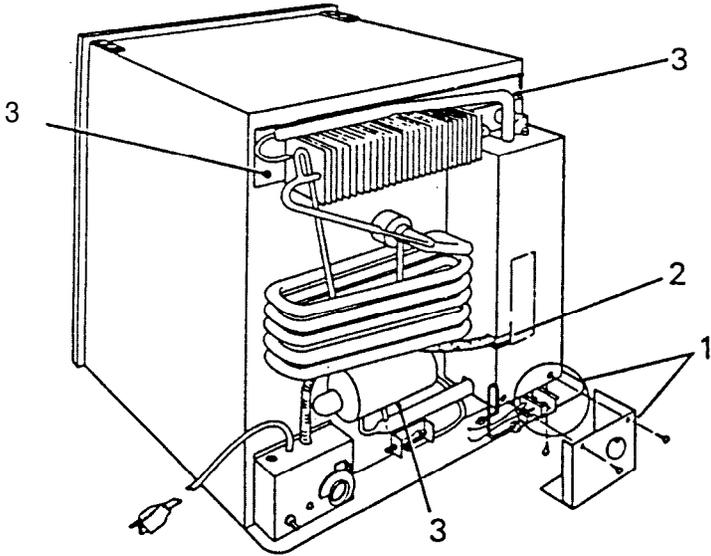

FIG. E1
1. Remove cover and disconnect burner from chimney (FIG. E1).
2. Remove heater from boiler case (FIG. E1).
3. Remove three (3) screws holding unit from rear (FIG. E1).
6. Reconnect burner assembly to chimney and replace cover (FIG. E1).
7. Install the heating elements completely back into the pocket (FIG. E1).
1. Remove burner protection cover and remove burner from chimney (FIG. E1).
2. Remove heaters from boiler case (FIG. E1).